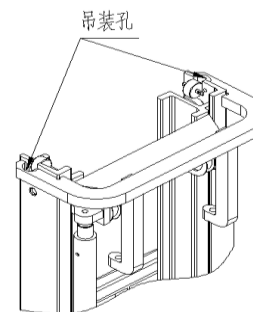

Figure 2-27
- (1) Figure 2-27 shows the lifting system